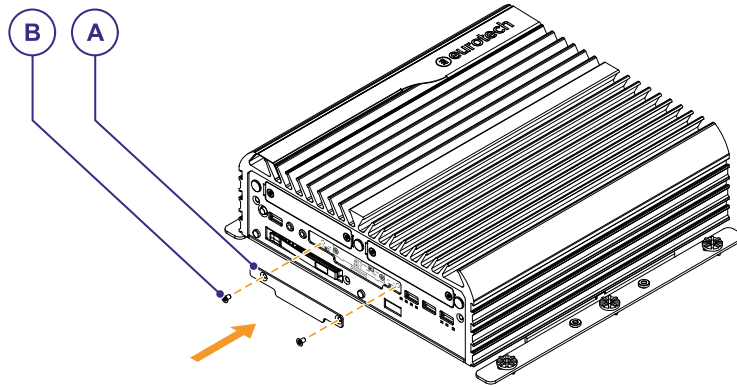

Fig. 7 - Reinstall the Service Panel Cover **A**
1. Put the Service Panel cover **A** in position (Fig. 7 below)